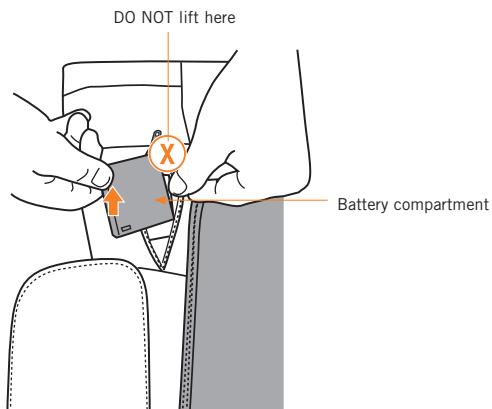

Fig.17
3. Lift the edge of the black battery compartment that is closest to the edge of the pad upward (do not pull up on the edge of the box from which the wiring is visible). (Fig.17).